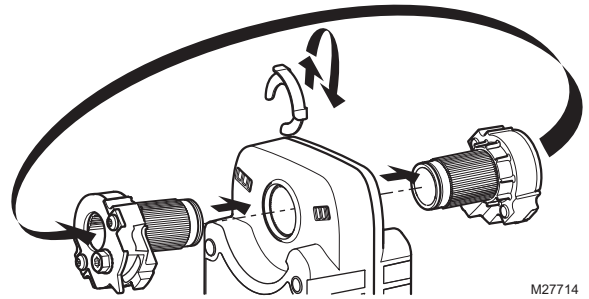

Fig. 19. Mounting SCSA to actuator opposite side.
- (1) Reposition reverse/direct acting switch, or
- (2) Remount actuator on the bracket.
- d. Move the actuator shaft coupling to the opposite side of the actuator, as displayed in Figure 19.